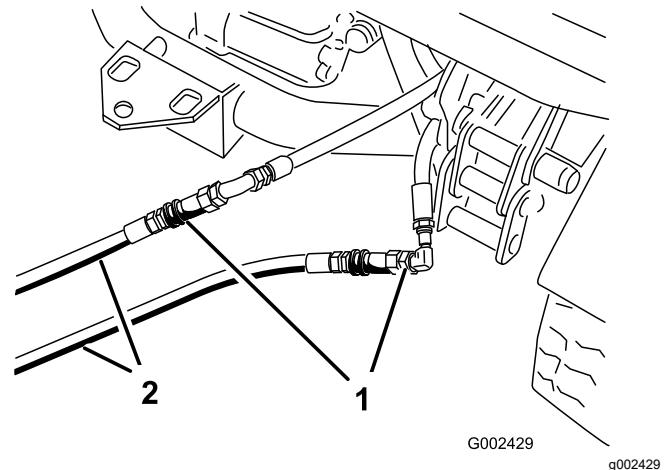

Figure 75
3. On the disabled machine, connect the 2 jumper hoses to the hoses that were disconnected (Figure 75).